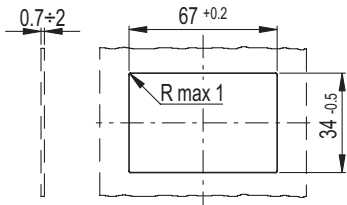

Fig.1
- Fit the lower part of the case into the housing and press until the complete snap fitting (Fig.1).